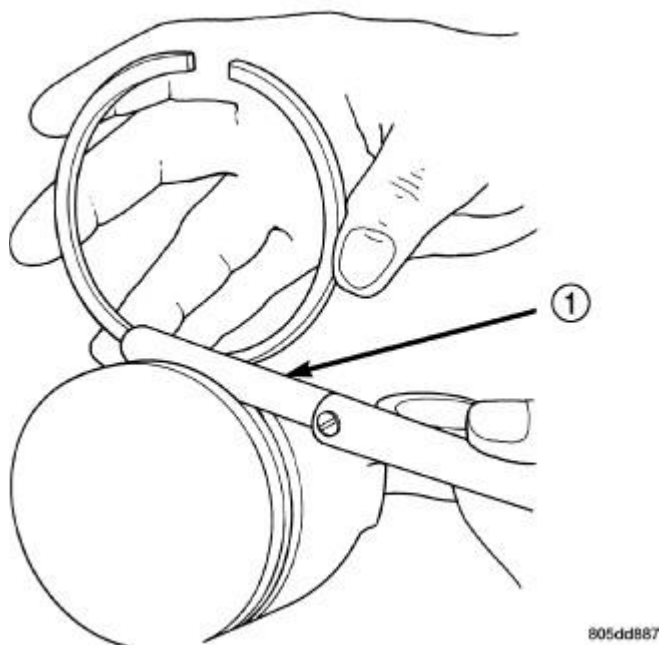

Fig. 181: Measuring Piston Ring Side Clearance
1. Measure the ring side clearance as shown in illustration. Make sure the feeler gauge (1) fits snugly between the ring land and the ring. See **Fig. 181**. Replace any ring not within specification.